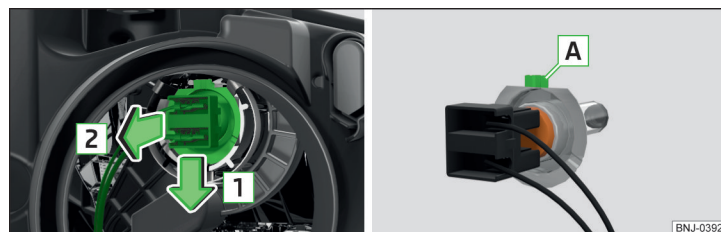

Fig. 288 Removing bulbs for low and main beam
- Disconnect the connector with the light bulb in the direction of arrow **1** » Fig. 288.